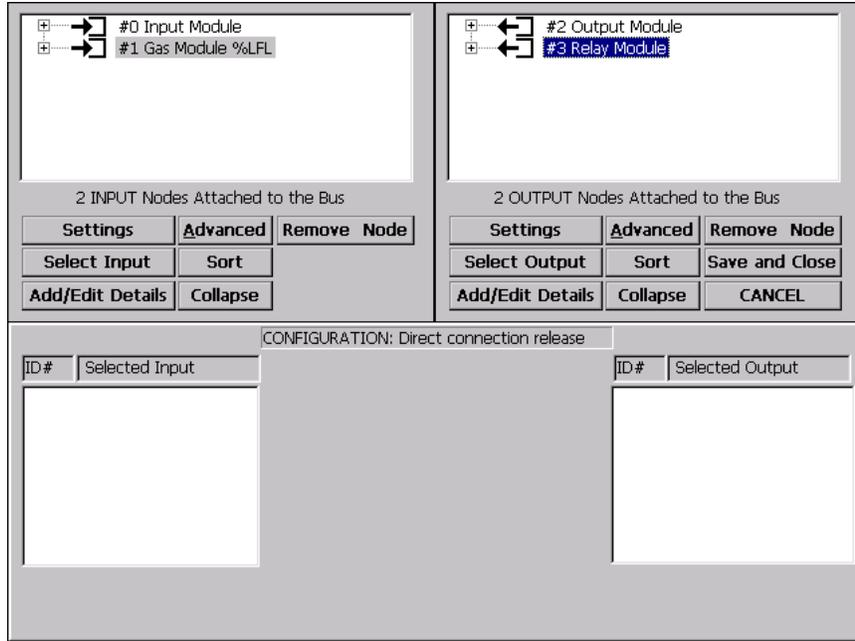

FIGURE 13 . Direct connection release - node trees are collapsed.
□ The first step in establishing node mapping is to connect the channels of all nodes, one at a time, to an icon that best represents the intended action as indicated back in section 9.2 . Refer to figure 13 and highlight the Input Node and click on the + to expand the node tree. Notice the node name and alarm location data fields are visible from previous sections. The following example will illustrate the technique for mapping an Input node to a Relay and SOM.